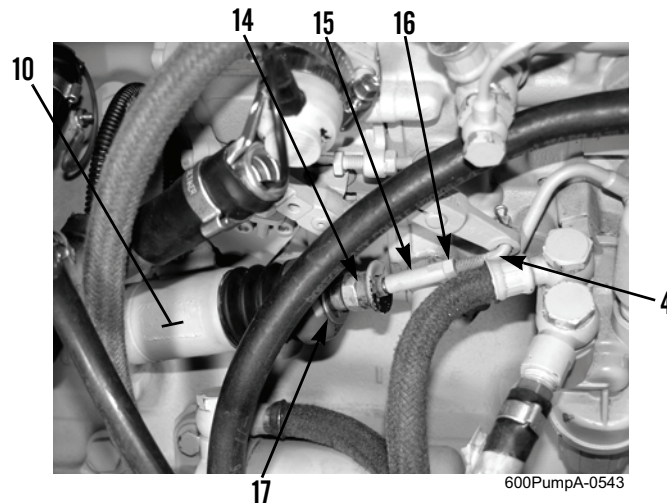

Figure 3. Solenoid Linkage.
4. Loosen nut (Figure 3, Item 16) on rod (Figure 3, Item 4) and remove rod and nut from threaded linkage (Figure 3, Item 15).
5. Remove threaded linkage (Figure 3, Item 15) from linkage nut (Figure 3, Item 14).
6. Remove circlip (Figure 3, Item 17) and linkage nut (Figure 3, Item 14) from solenoid (Figure 3, Item 10). Discard circlip.
1. Install linkage nut (Figure 3, Item 14) and new circlip (Figure 3, Item 17) on solenoid (Figure 3, Item 10).
2. Install threaded linkage (Figure 3, Item 15) on linkage nut (Figure 3, Item 14).
3. Install rod (Figure 3, Item 4) with nut (Figure 3, Item 16) on threaded linkage (Figure 3, Item 15) and adjust to measurement noted during removal. Tighten nut.